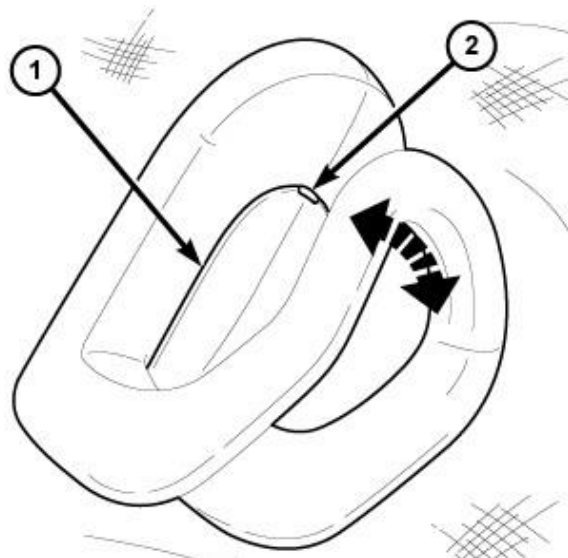

Figure 69 – Coat Hook
23. Using a small flat bladed tool, open the coat hook screw cover (2) then remove the screw and coat hook (Figure 69).
40. Position the coat hooks (5) onto the headliner and install the screws tightening securely into the mounting clips then close the screw cap fully (Figure 69).